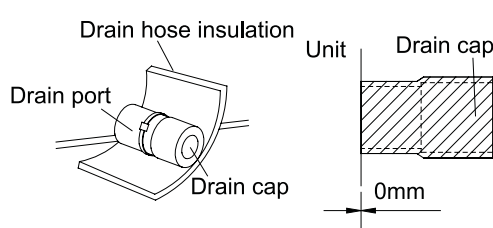

Figure 3-1-14
- (14). The unused drain port also should be insulated properly.(Figure 3-1-14)